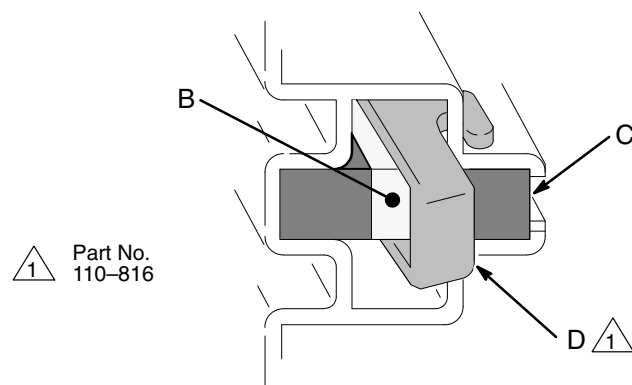

Fig. 9
2. Push in the spring clip (D) to unhook it, and then pull it out. See Fig 9.